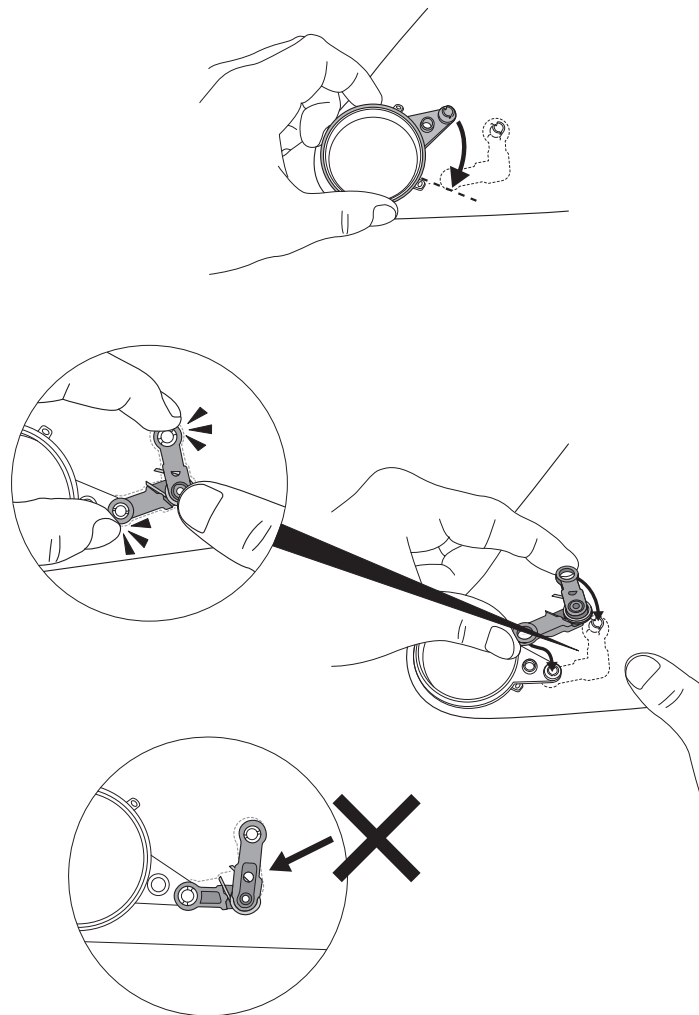

Fig. 16c
- d. There is an outline of the hinge etched on the inside of the welding shield. One arm of the etching is shorter than the other. The long arm of the hinge attaches to the pivot ring and the short arm of the hinge attaches to the outer welding shield post. When installed correctly, the hinge will fall exactly into the etched drawing on the outer welding shield (Fig. 16c).